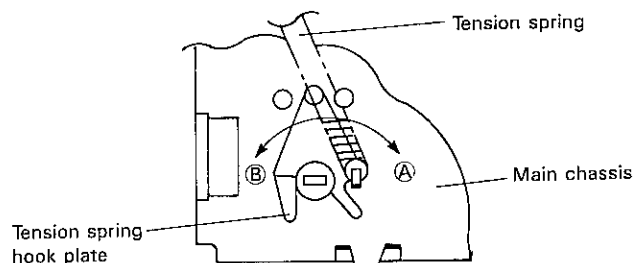

Figure 1-15.
• Position adjustment (Fig. 1-15)
1. If the tension pole is at the right of the supply impedance roller's center, shift the tension band control bracket ① in the direction of arrow $\Rightarrow$ B, and tighten the screw ②.
2. If the tension pole is at the left of the supply impedance roller's center, shift the tension band control bracket ① in the direction of arrow $\Rightarrow$ A, and tighten the screw ②.
• Adjustment (Fig. 1-15)
1. If the back tension is lower than specified, move the tension spring hook plate ① in the direction of arrow A so that the protuberance behind be tight in the hole.
2. If the back tension is higher than specified, move the tension spring hook plate ① in the direction of arrow B so that the protuberance behind be tight in the hole.